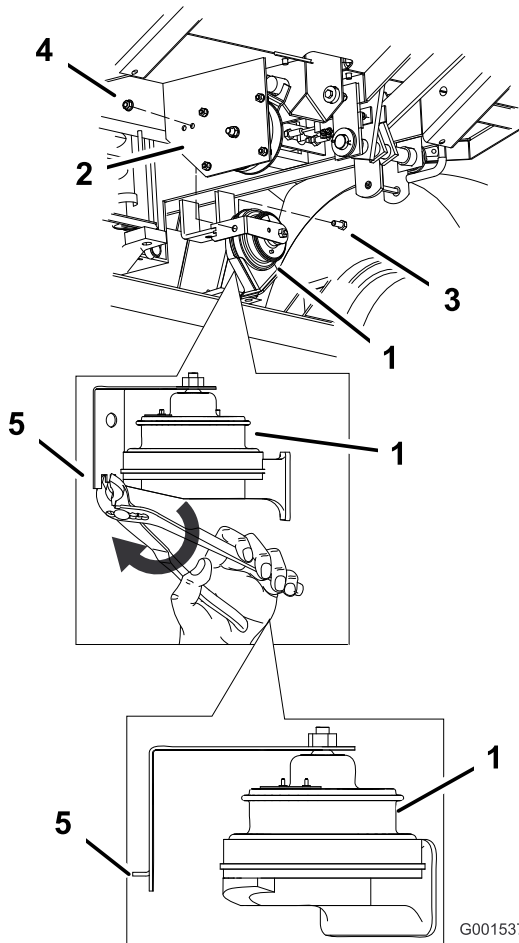

Figure 2
1. Bend the middle tab at the end of the bracket to a 90 degree angle (Figure 2).
using a bolt (5/16 x 3/4 inch) and a flange nut (5/16 inch) (Figure 2).